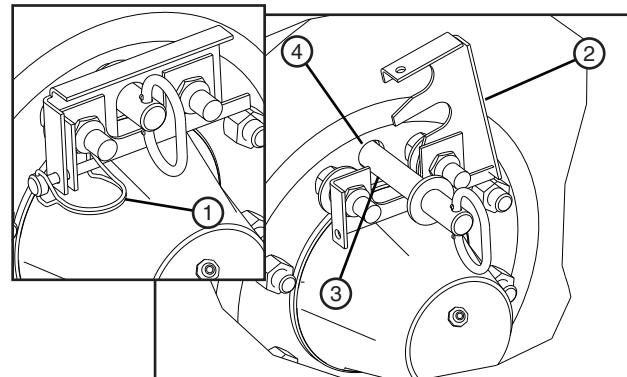

Figure 78-2 1. Lynch Pin 2. Retainer Clip 3. Torque Pin 4. Hub Torque Pin Receiver
4. Remove the torque pin from the hub torque pin receiver of both cart wheels. This will allow both wheels to rotate. See figure 78-2.
5. Tie the machine to the anchor with a load binder attached to one of the short chains on the drive unit depending on the direction the machine will be rotated. See figures 78-2.